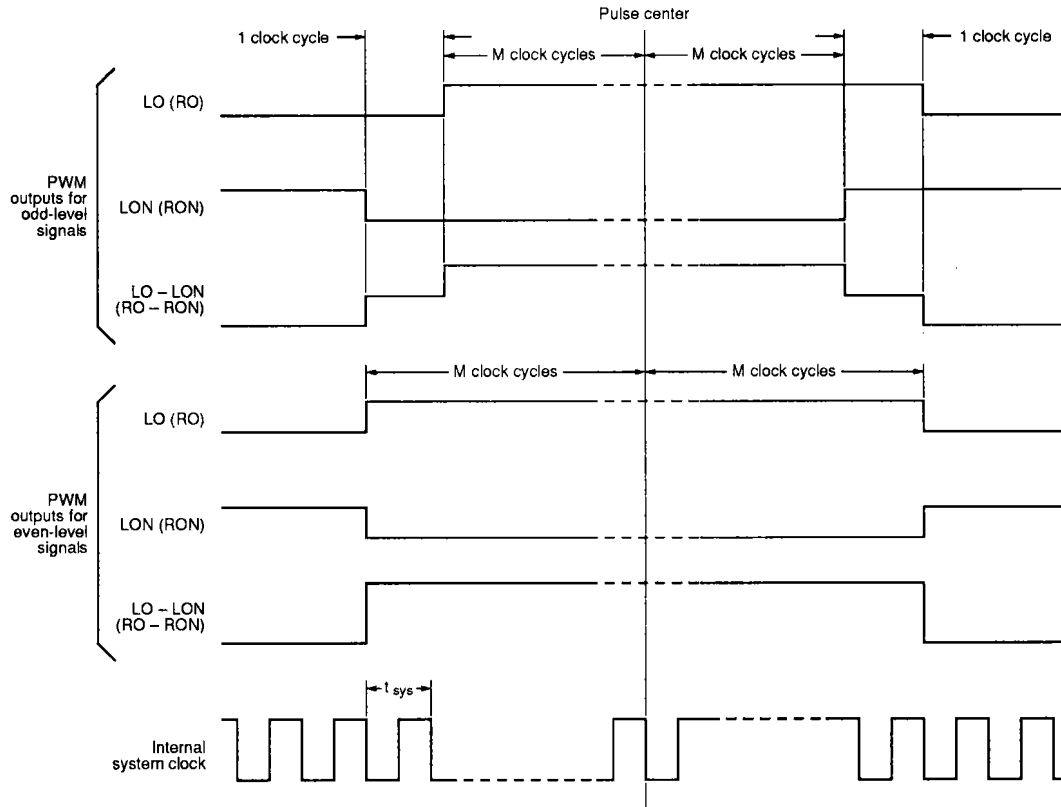

Figure 12. Pulsewidth modulation waveforms
- LON) and (RO - RON) are symmetrical as shown in figure 12. Even-valued output signals have symmetrical waveforms. Using this output method, the SM5872A/B can operate at half the clock frequency required by conventional devices.